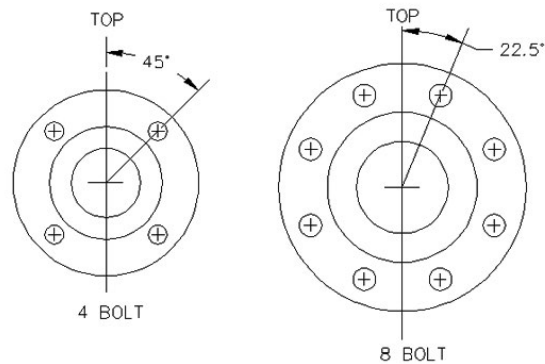

Figure 2. Bolt Hole Orientation
- Weld flanges to existing pipe. Make certain the pipe flanges and Accelabar® flanges are the same Nominal Pipe Size (NPS) and pressure rating. Bolt hole location typically mimics the diagram shown in Figure 2, where bolt holes straddle the centerline of the pipe (Figure 2 does not show 12 and 20 bolt patterns; orientation is typical). However, take into consideration mounting as required in Section 4.0.